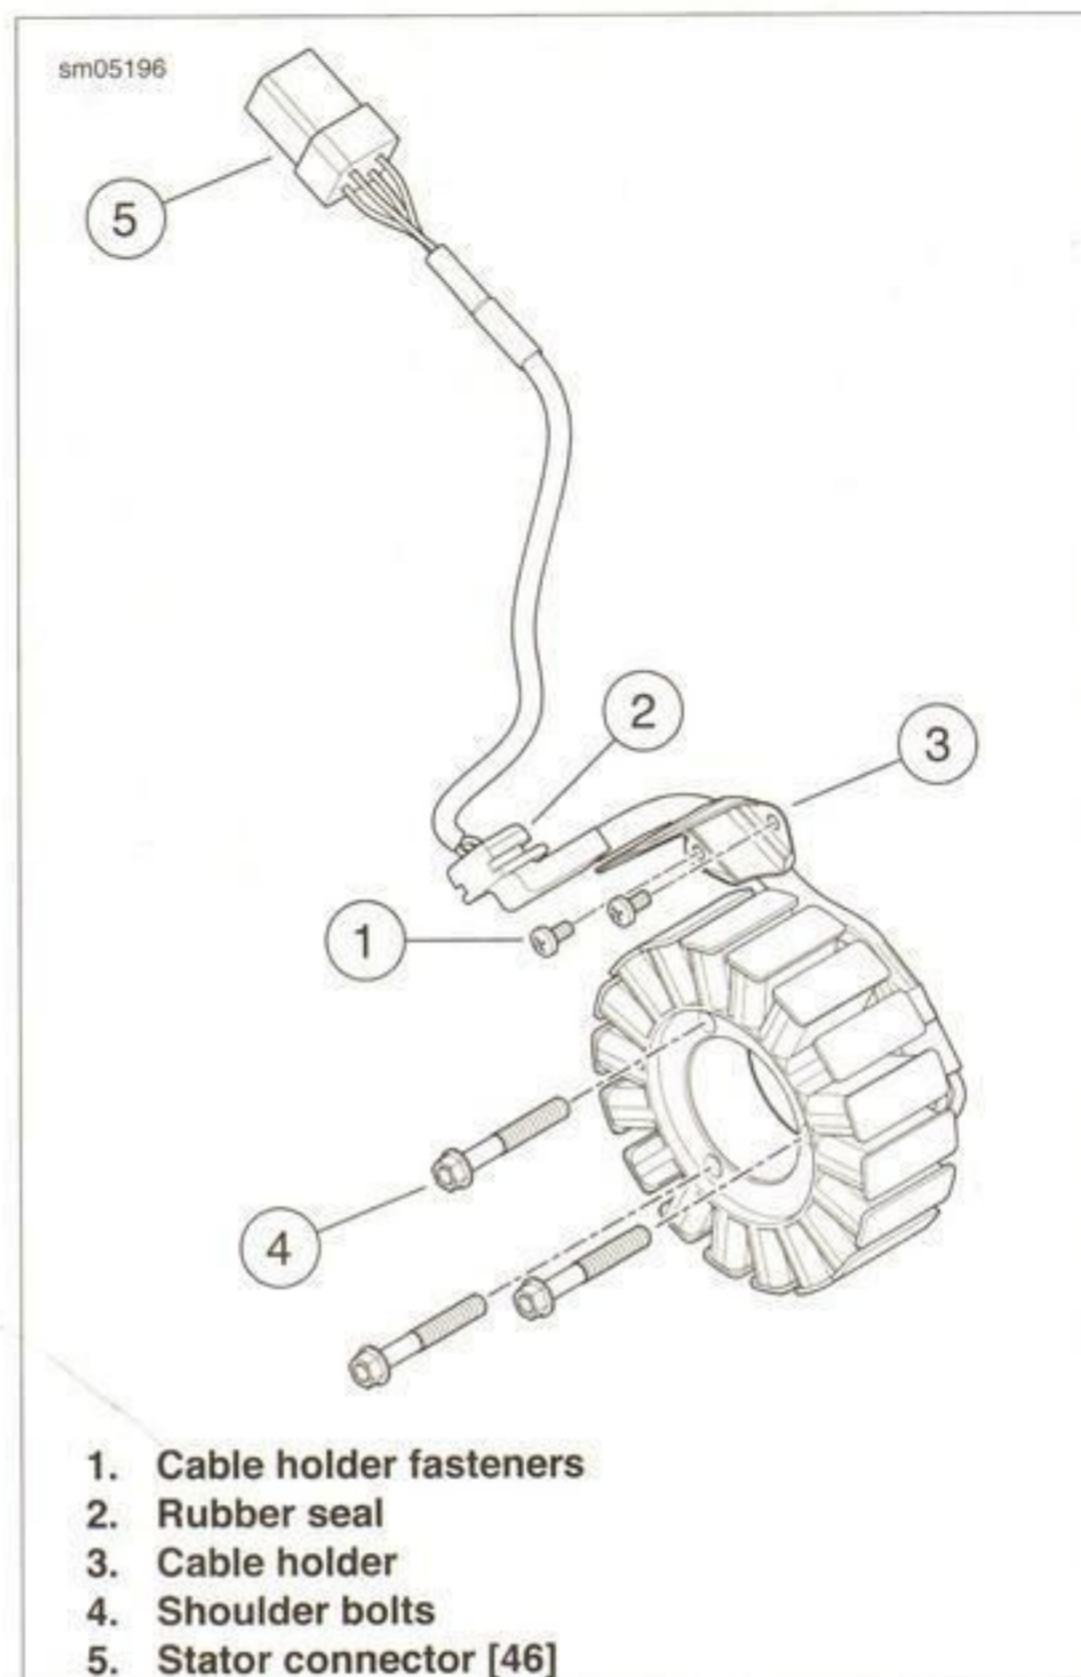

Figure 7-39. Stator Assembly
1. See Figure 7-39. Fill groove of rubber seal (2) with H-D HIGH-PERFORMANCE SEALANT, GRAY (Part No. 99650-02) and slide into groove in the ignition cover.